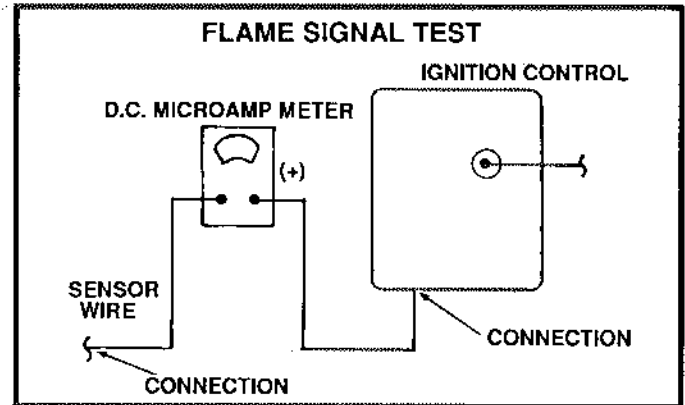

FIGURE 26
- 1- Place the meter in series between the ignition control and sensor wire. Connect the positive (+) lead of the meter to the ignition control sensor connection and negative (-) lead of the meter to the sensor wire. See figure 26.
- 1- Drill size "R" or 1 1/32 in. hole on top of the exhaust outlet PVC elbow (inside unit cabinet) and tap 1/8-27 NPT as shown in figure 26. This hole is used as the CO₂/CO test port.